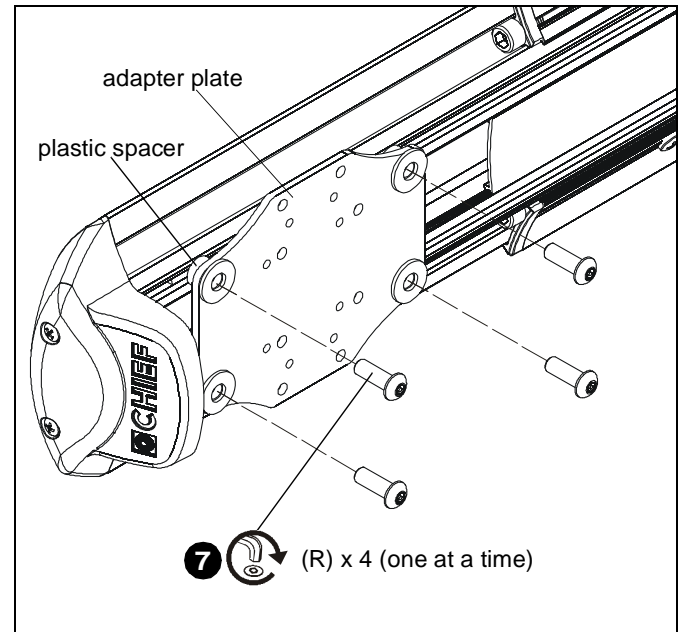

Figure 32
7. Install one 1/4-20 x 3/4" button head security screw (R) into hole vacated by removing bolt in Step 6 and into plastic spacer. (See Figure 32)